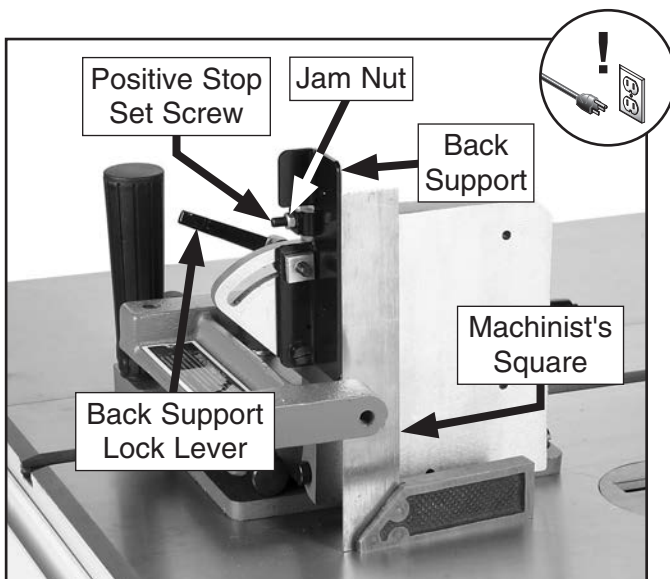

Figure 17. Adjusting back support perpendicular to saw table.
4. Loosen jam nut on positive stop set screw, then back off set screw to allow adjustment of back support (see **Figure 17**).
5. Position machinist's square flat on table and up against back support, as shown in **Figure 17**.
6. Loosen back support lock lever (see **Figure 17**), position back support flat against machinist's square, then, without moving back support, re-tighten lock lever.